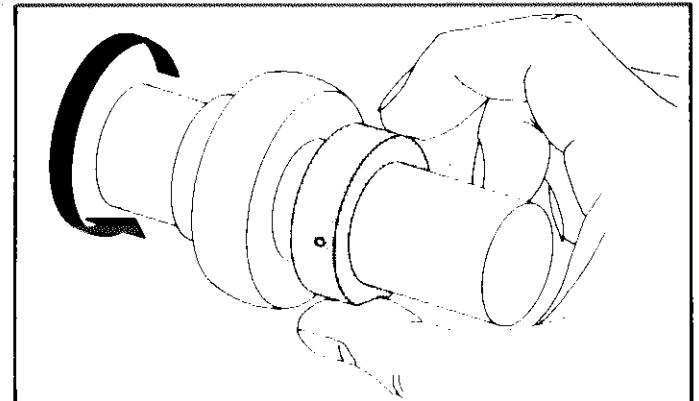

FIGURE 96
- 2 - Press collar lightly against inner ring, then turn collar **in direction of shaft rotation** until engaged. Refer to Figure 96.